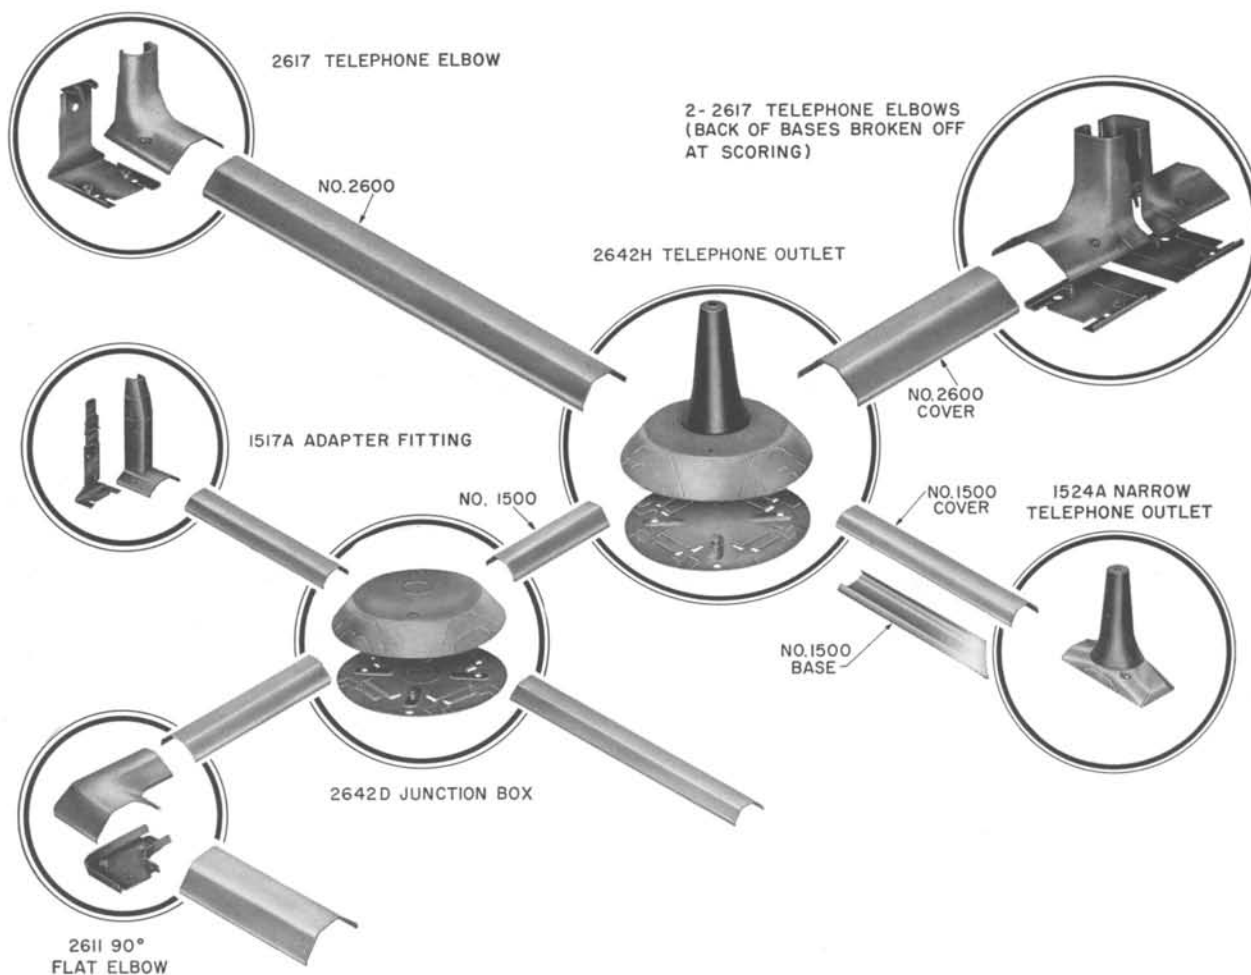

FIG. 7—TYPICAL METAL OVERFLOOR DUCT LAYOUT
- There are two types of metal overfloor ducts in general use; they are known as Wiremold and Florduct (see Fig. 7).